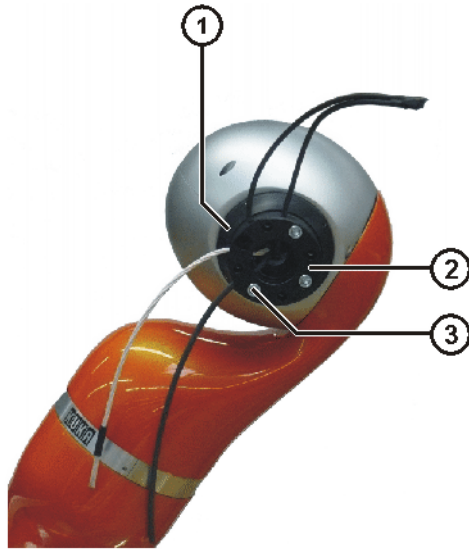

Fig. 8-3: Removing the cable adapter flange
5. Remove 3 Allen screws from the cable adapter flange and remove the cable adapter flange (>>> Fig. 8-3).